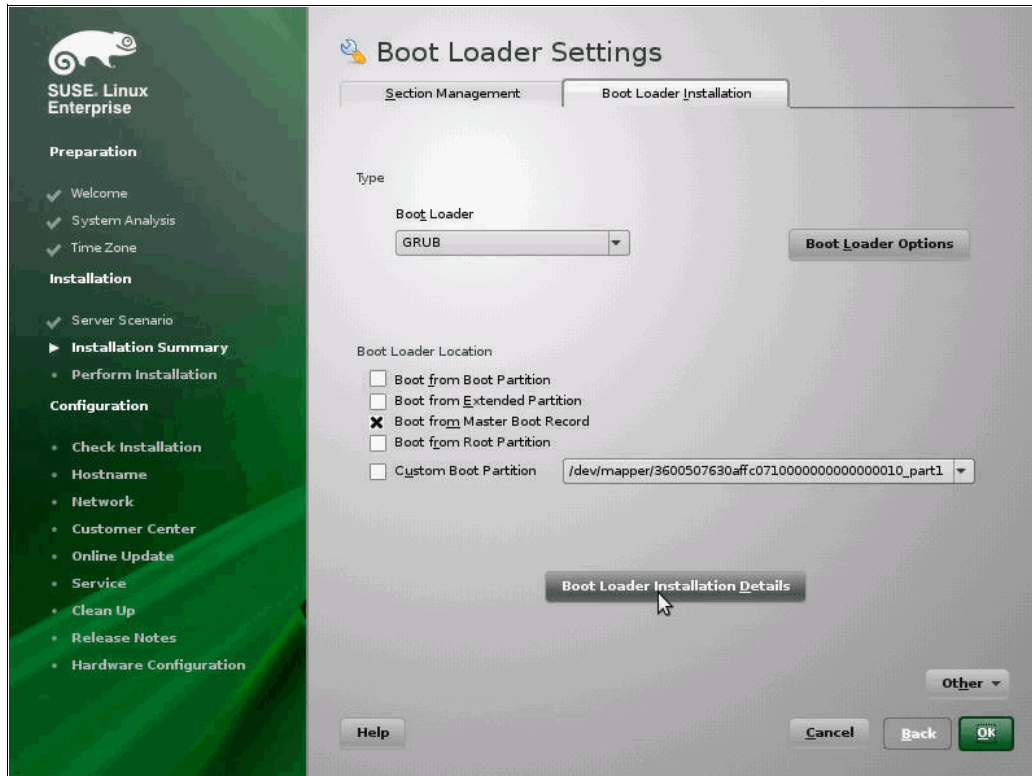

Figure 3-64 Boot loader installation details
17. Change the Boot loader to reflect the multipath partitioning changes. Click the **Boot** option, **Boot Loader Installation**, as shown in Figure 3-64.